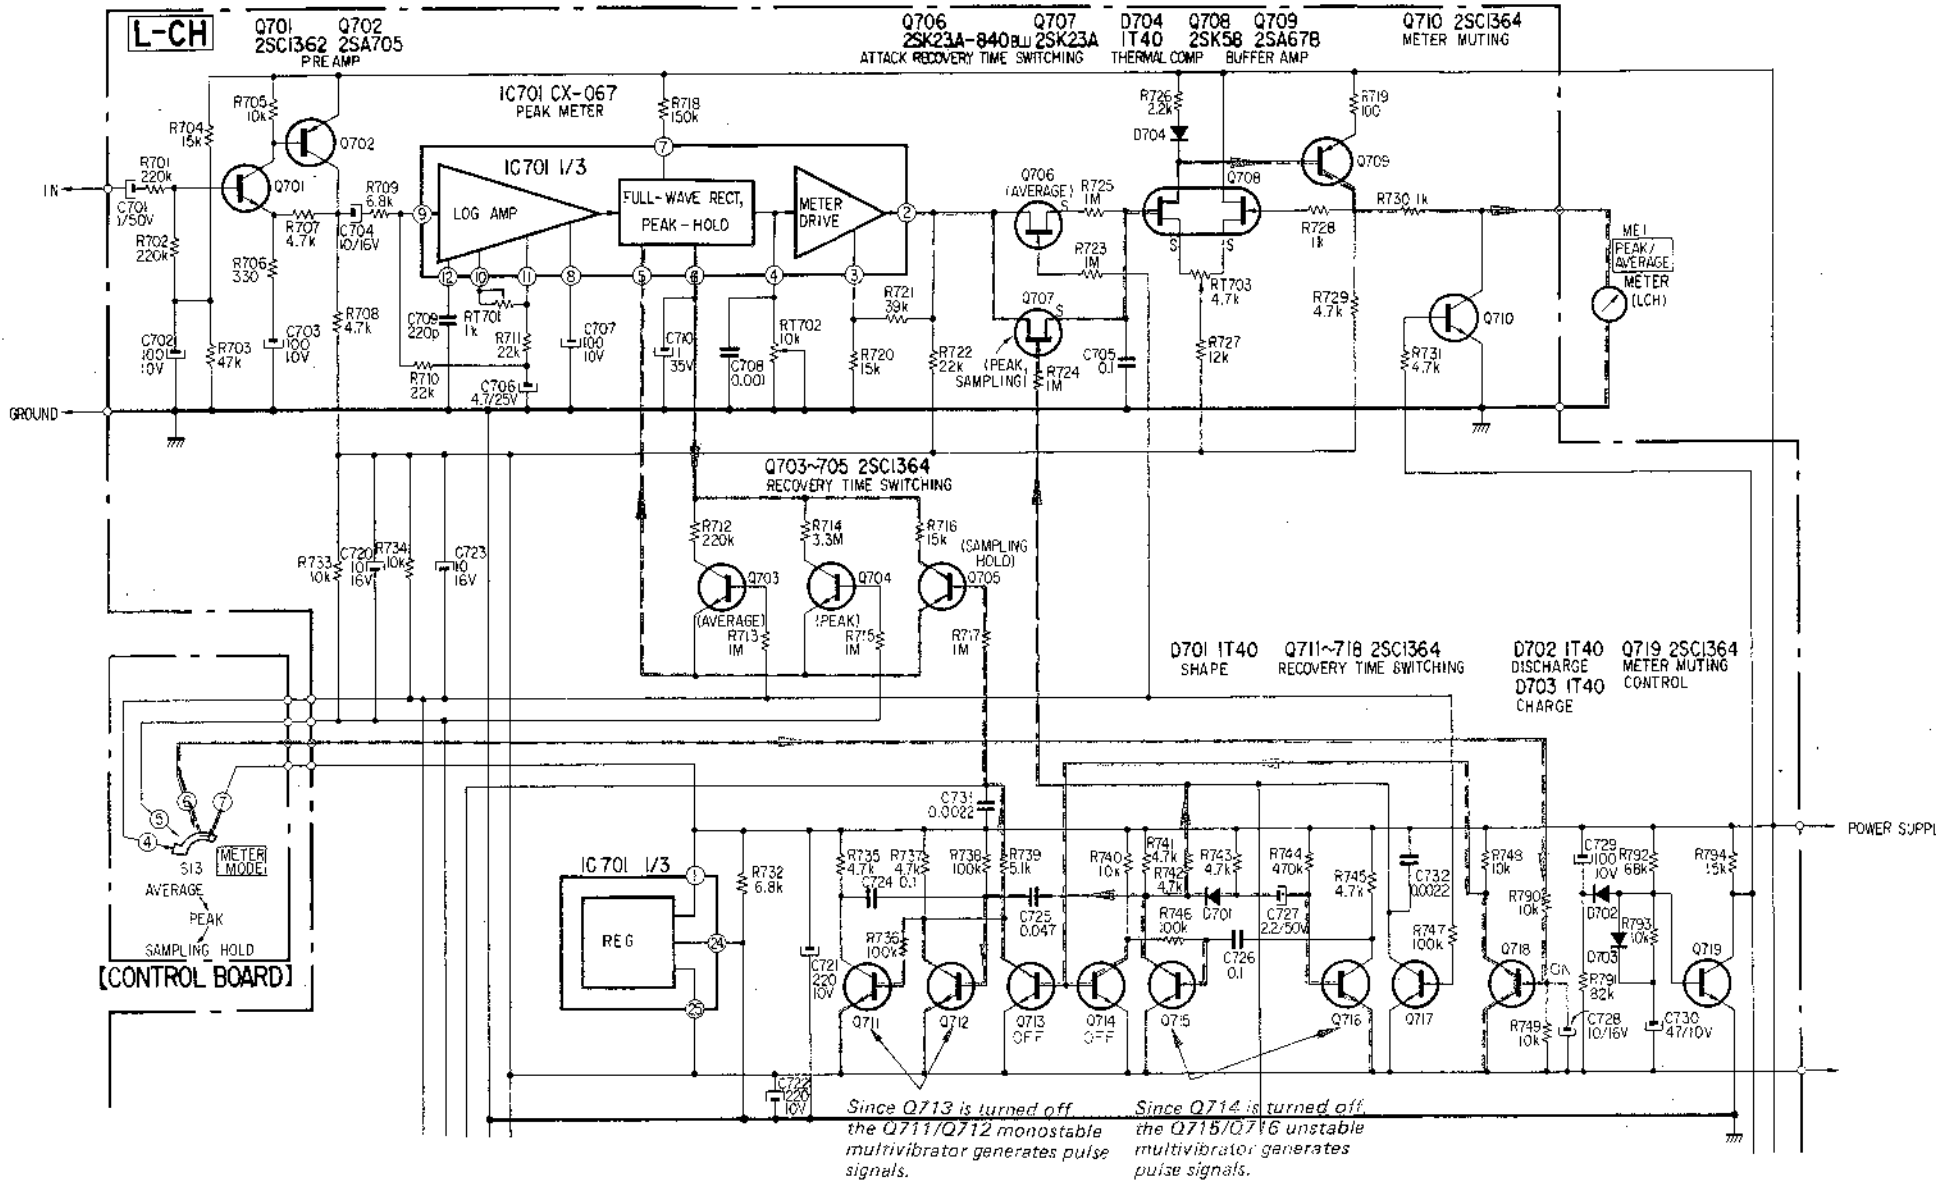

Fig. 5
* During sampling hold mode, Q705 turns on every 0.5 seconds, and C710 discharges immediately through R716 (15 kΩ) (see Fig. 5).
* During sampling hold mode, Q707 is turned on (Fig. 5) resulting in the same rapid charge-up time as during peak mode.
3. Circuit Operation and Meter Display During Sampling Hold Mode (See Figs. 5 & 6)
4. Meter Drive Circuit (Fig. 5)
5. Meter Muting Circuit (Fig. 5)